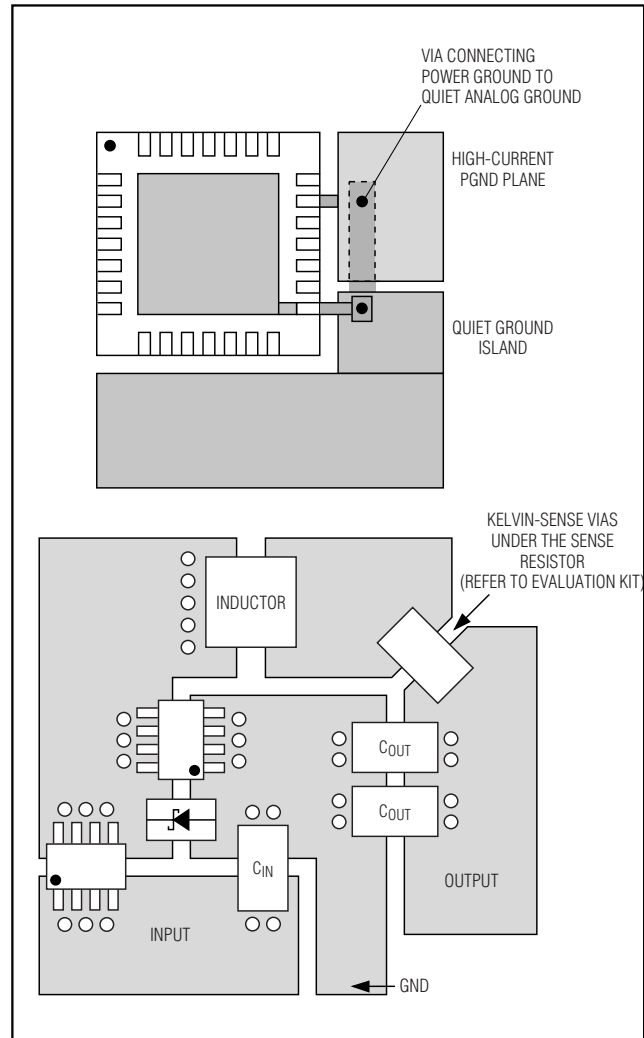

Figure 13. PC Board Layout Examples
- Use a single-point star ground placed directly below the part at the PGND pin. Connect the power ground (ground plane) and the quiet ground island at this location. See Figure 13.